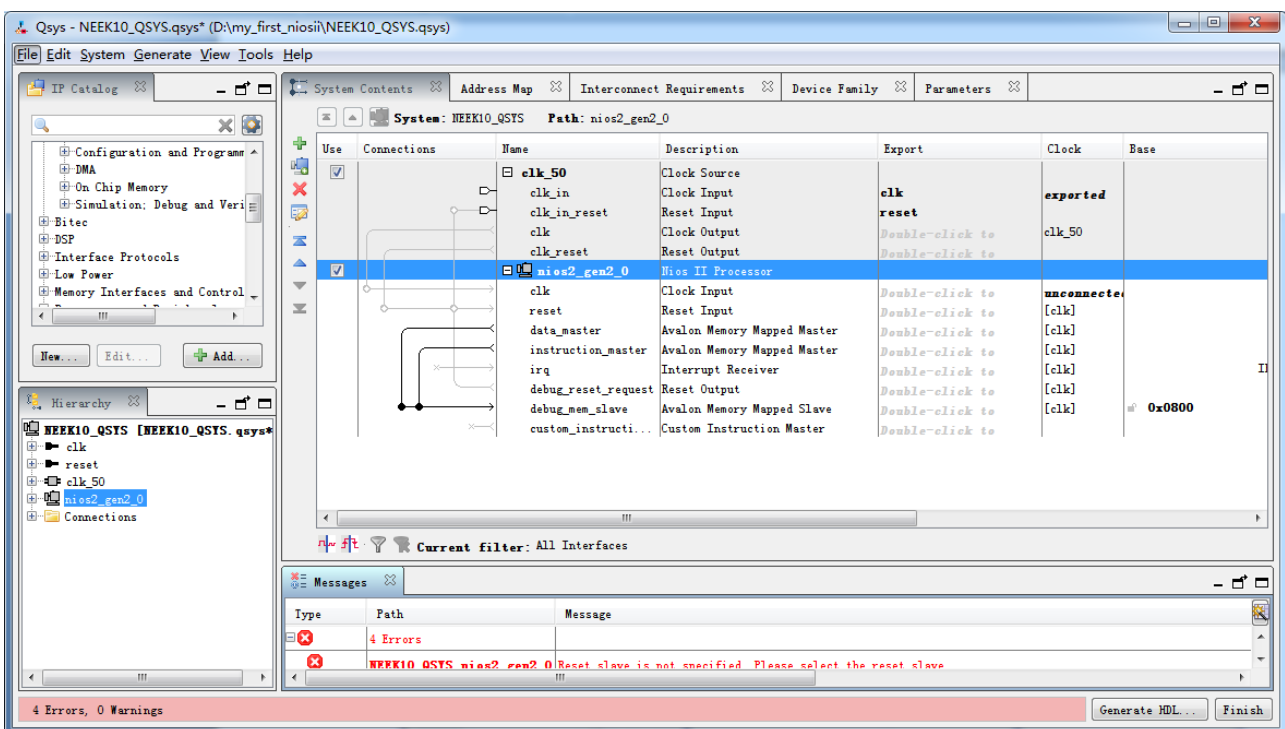

Figure 1-16 Complete adding Nios II processor
9. Click **Finish** to return to the main window, as shown in Figure 1-16.